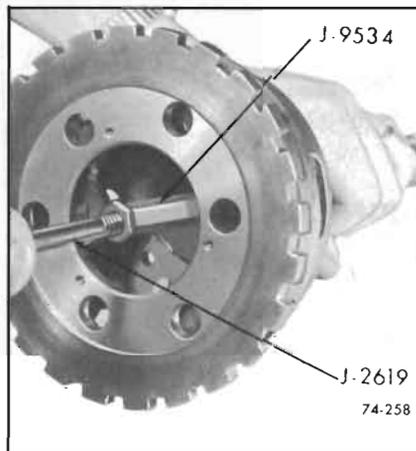

Figure 74-258
13. Check output shaft bushing for nicks, severe scoring or wear. If bushing replacement is necessary remove as follows: Install Bushing Remover J-9534 into bushing. Install Slide Hammer J-2619 into J-9534, using slide hammer remove bushing from planet carrier. See Figure 74-258.